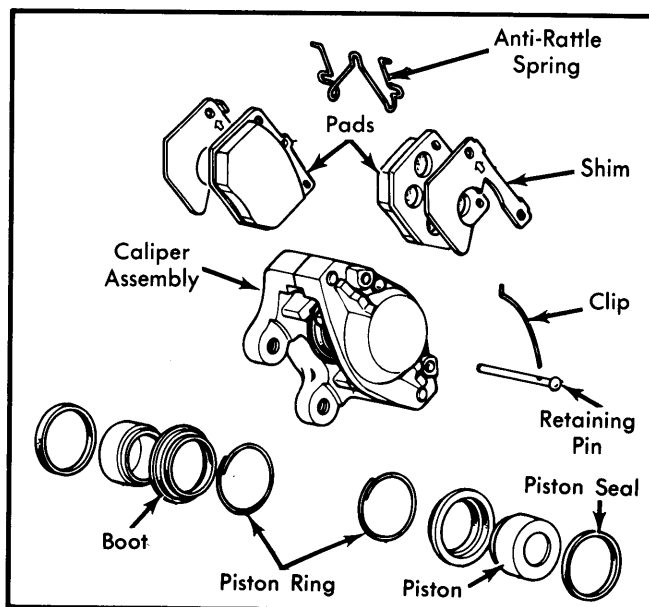

Fig. 1 Exploded View of Girling Type Disc Brake
**Disassembly (Girling Type)** — Remove retainer ring from dust boot and remove dust boot. Insert small block of wood between pistons and apply light air pressure to inlet port to force pistons from cylinder bores. Remove seals from grooves without damaging bores. See Fig. 1.